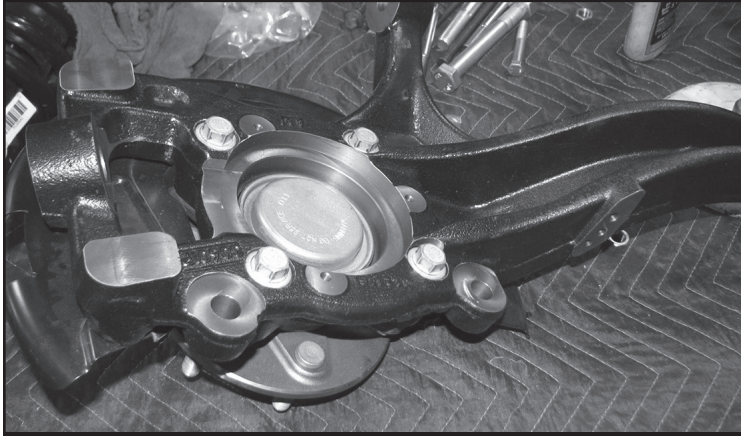

FIGURE 8 - STEP 20
20. Locate the factory spindles and remove the hub assemblies. Save hardware. Reinstall the hub assembly onto the new Fabtech spindles using the factory bolts. Torque to 160 ft-lbs. **SEE FIGURE 8**